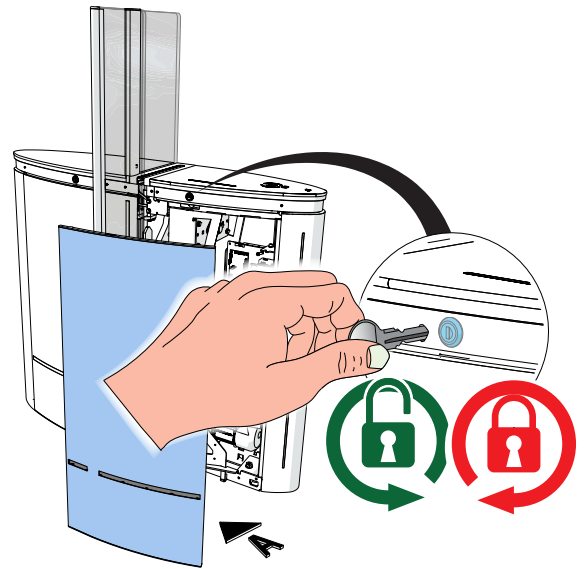

Fig. 58 - Right side panel removal - side A
1. Insert the key(s) into the lock(s) located in the band above the panel and turn counter-clockwise (90°) to unlock; (⇒ Fig. 58)